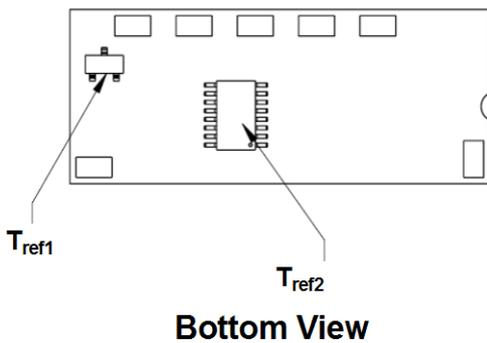
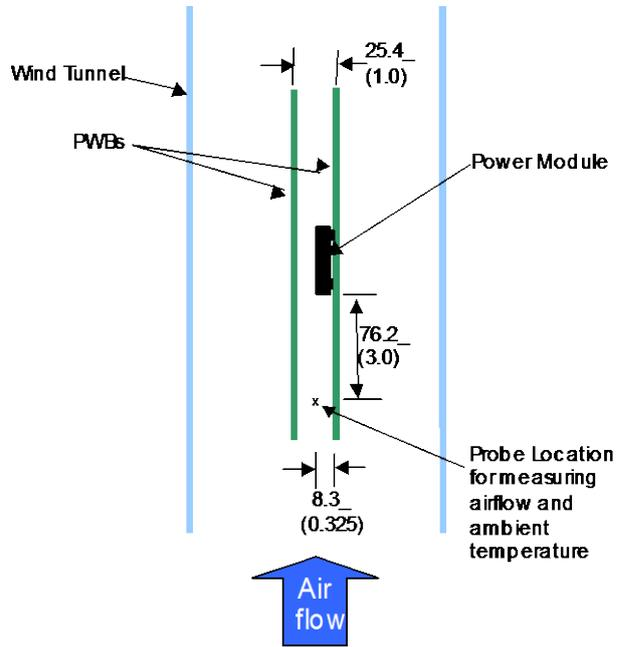

Figure 31. Temperature measurement locations  $T_{ref1}$  and  $T_{ref2}$ .
Figure 32. Thermal Test Set-up.
Considerations include ambient temperature, airflow, module power dissipation, and the need for increased reliability. A reduction in the operating temperature of the module will result in an increase in reliability. The thermal data presented here is based on physical measurements taken in a wind tunnel. The test set-up is shown in Figure 32. Note that the airflow is parallel to the short axis of the module as shown in figure 31. The derating data applies to airflow in either direction of the module’s short axis.
The thermal reference points,  $T_{ref1}$  and  $T_{ref2}$  used in the specifications are shown in Figure 31. For reliable operation these temperatures should not exceed 115°C.